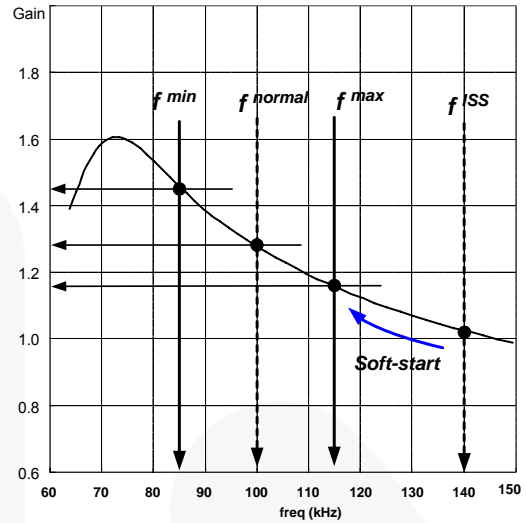
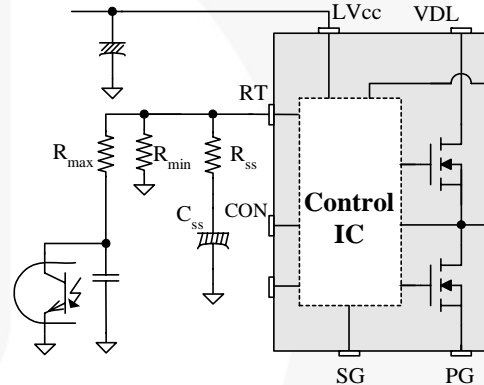

Figure 18. Resonant Converter Typical Gain Curve
Figure 19. Frequency Control Circuit
**3. Frequency Setting:** Figure 18 shows the typical voltage gain curve of a resonant converter, where the gain is inversely proportional to the switching frequency. The output voltage can be regulated by modulating the switching frequency. Figure 19 shows the typical circuit configuration for  $R_T$  pin, where the opto-coupler transistor is connected to the  $R_T$  pin to modulate the switching frequency.
To prevent excessive inrush current and overshoot of output voltage during start-up, increase the voltage gain of the resonant converter progressively. Since the voltage gain of the resonant converter is inversely proportional to the switching frequency, the soft-start is implemented by sweeping down the switching frequency from an initial high frequency ( $f_{ISS}$ ) until the output voltage is established. The soft-start circuit is made by connecting R-C series network on the  $R_T$  pin, as shown in Figure 19. FSFR-series also has an internal soft-start for 3ms to reduce the current overshoot during the initial